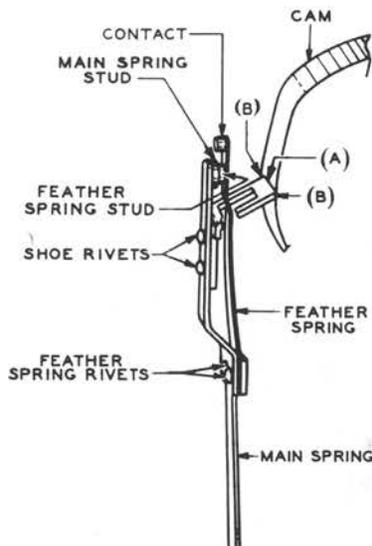

Fig. 12—Position of Shoe on Spring Assembly Without Shoe Bracing Bracket
- (b) **Spring Assembly Without Shoe Bracing Bracket:** With the shoe on the low portion of the cam, the feather spring (Fig. 12) portion above the offset shall be approximately parallel with the end of the mainspring. Gauge by eye.